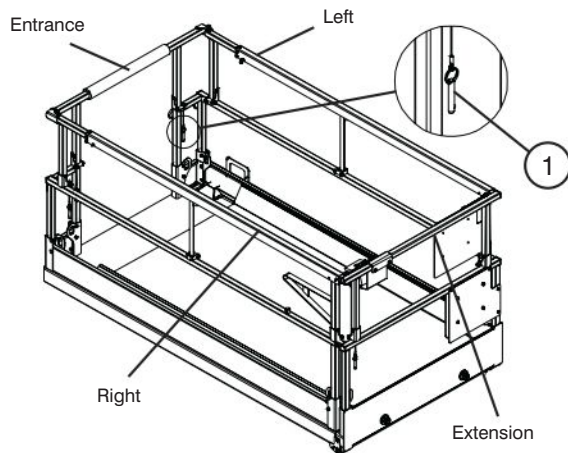

Figure 2-17a. Folding Guardrail System
6. Fold down guardrails in the following order: right-hand side, left-hand side, entrance and extension (refer to Figure 2-17a).